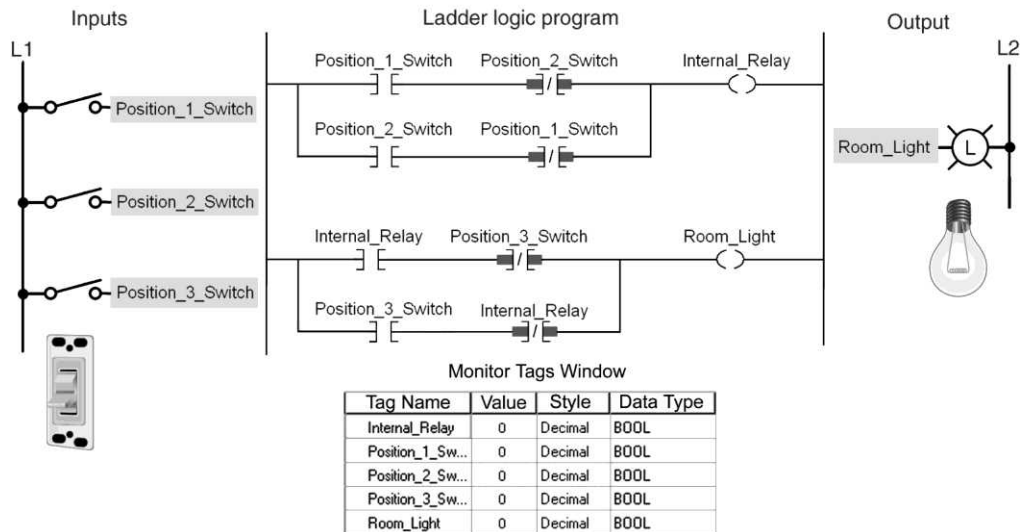

Figure 15-15 Internal relay program for assignment 2.
- 2) The internal relay program of Figure 15-15 is described in the text.